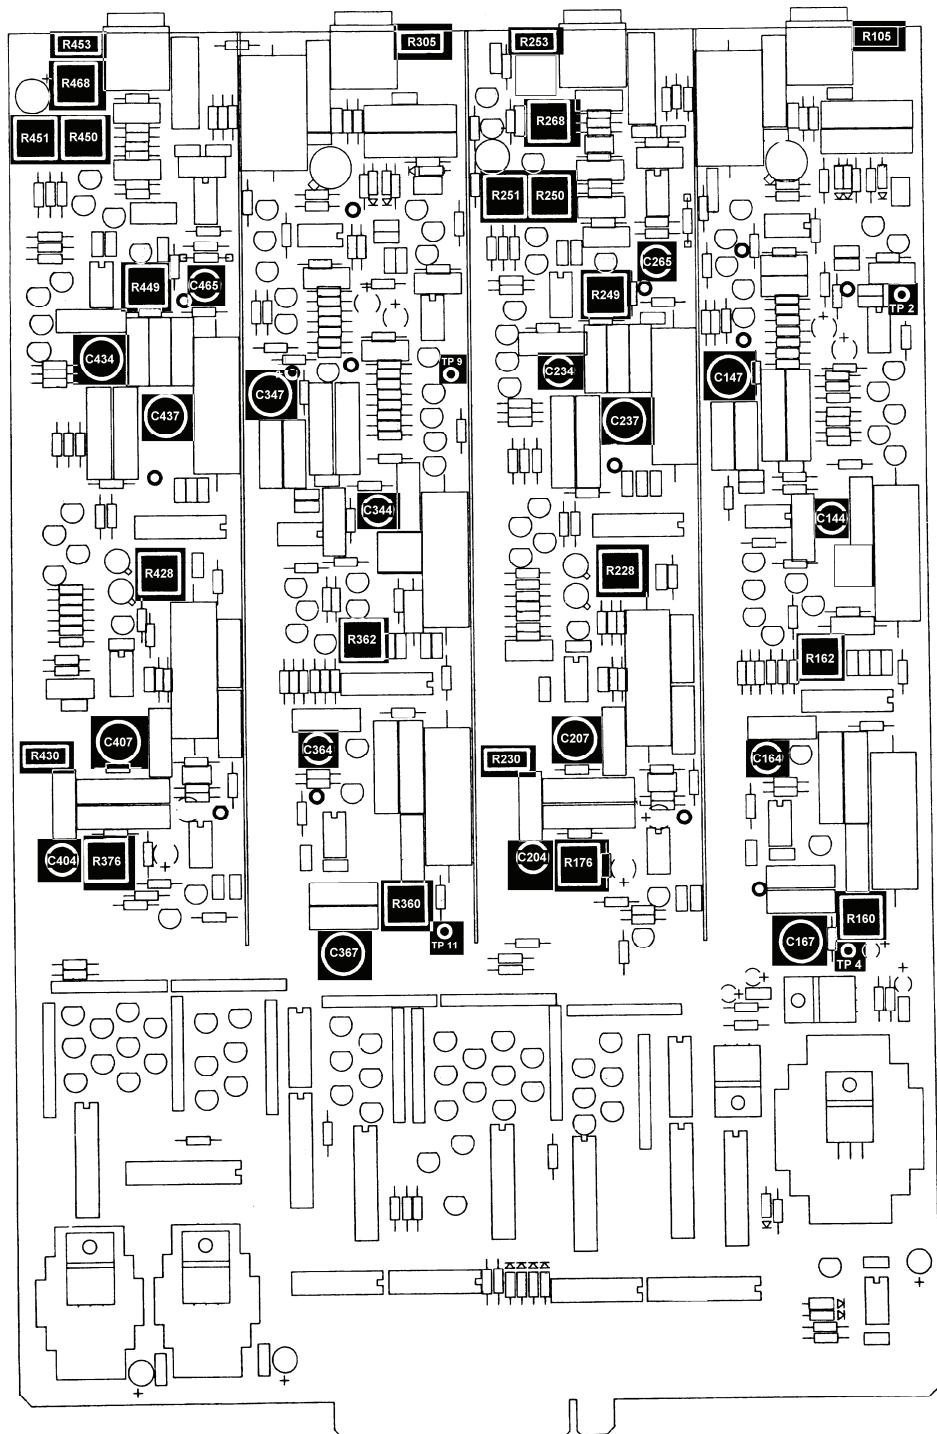

Figure 1. Motherboard.
- g.** Adjust DC ADJ R253 (fig. 1), located to the right of rear panel **CH 1 OUTPUT BNC** connector for multimeter indication of 0 V dc ± 1 mVdc.
- i.** Adjust R268 (fig. 1) until multimeter indicates between 0 V dc ± 1 mVdc.
- l.** Press corresponding keys as listed in (1) through (3) below and verify **CUTOFF FREQUENCY** indicates **2.000**.
- (1) **2** data entry key.
- (2) **KILO** parameter key.
- (3) **FREQ** parameter key.
s. Adjust R176 (fig. 1) for multimeter indication of 0 V dc ± 1 mVdc.